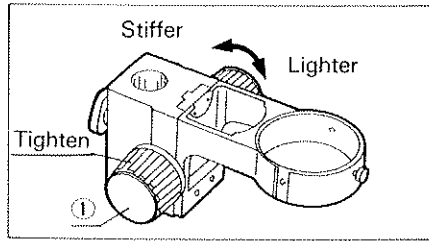

Fig. 7
- (1) Holding the focusing knobs ①, one in each hand, turn one knob while keeping the other knob tightened. The direction in which the knob is turned determines whether the rotation tension increases or decreases. (Fig. 7)
- (2) This adjustment should prevent the microscope body from falling down accidentally. The knob tension should be set to a level slightly stiffer than that required to prevent unintentional movement (drifting), in order to facilitate easy operation.